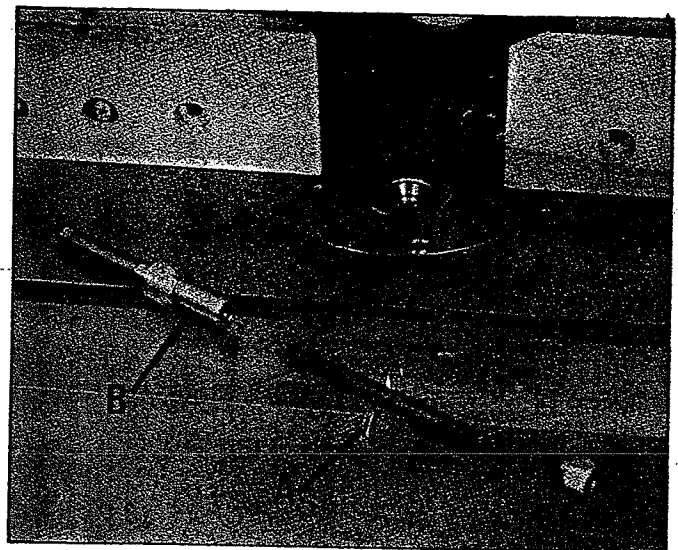

Fig. 9
1. Thread one end of the tie rod (A) Fig. 9, into the threaded hole in the bottom of the spindle (B).